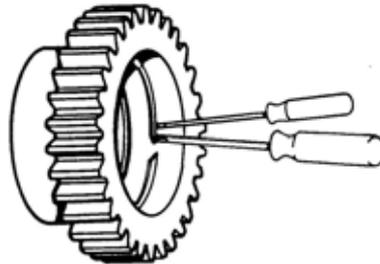

Figure 13 Removing the Snap Ring
- e. Remove the snap ring from the gear if damage is evident (Figure 13).